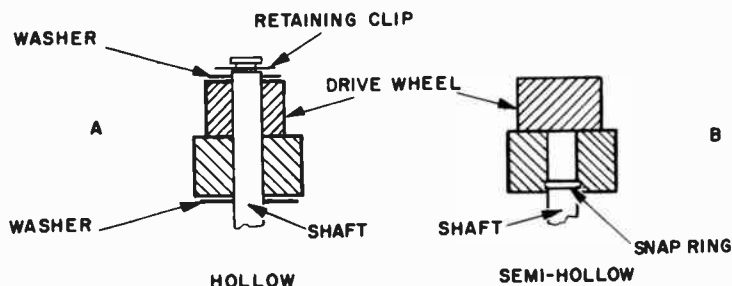

Fig. 316-a,-b. Drive-wheel mounting methods. Two different mounting techniques are shown here.
3. On some assemblies, the drive wheels are mounted in the same way as the idler wheels (see part a of Fig. 316) and can be handled in the same manner. Sometimes, though, the drive wheel itself snaps onto its mounting shaft. The latter can easily be recognized because it has a solid top, as shown in b of Fig. 316. A slight upward pull will release this type.